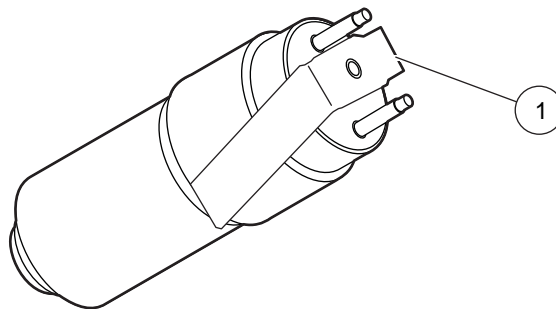

Figure 29 Removal of the bracket
6. Push the bracket to one side and remove it from the pump (refer to Figure 29).